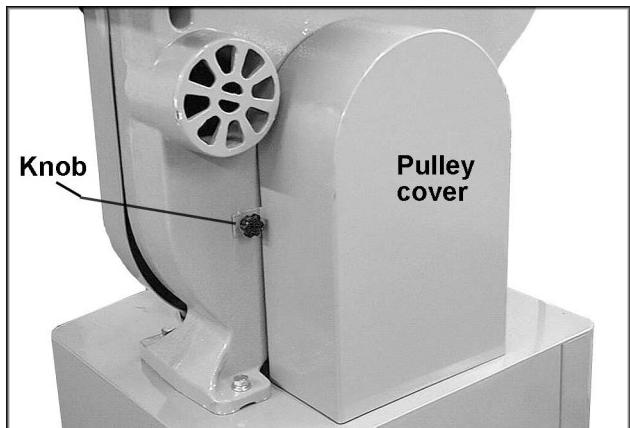

Fig. 5
10. Screw the two small knobs (Fig. 5) into the threaded holes in the saw body. Slide the pulley cover down over the knobs, and tighten the knobs.